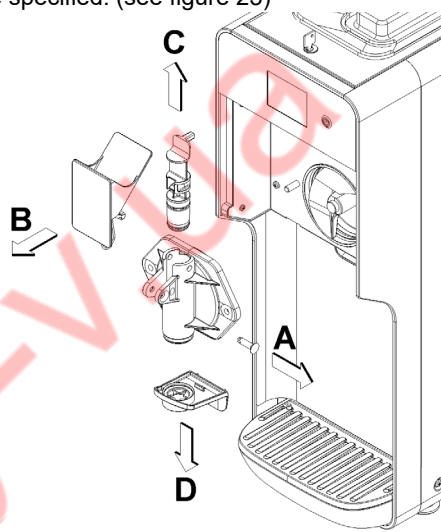

figure 23
7 Remove the tap assembly and disassemble it, following the sequence specified. (see figure 23)
- 3 Reassemble the tap assembly in the reverse order to that illustrated in Figure 23 and reposition it in its seat.